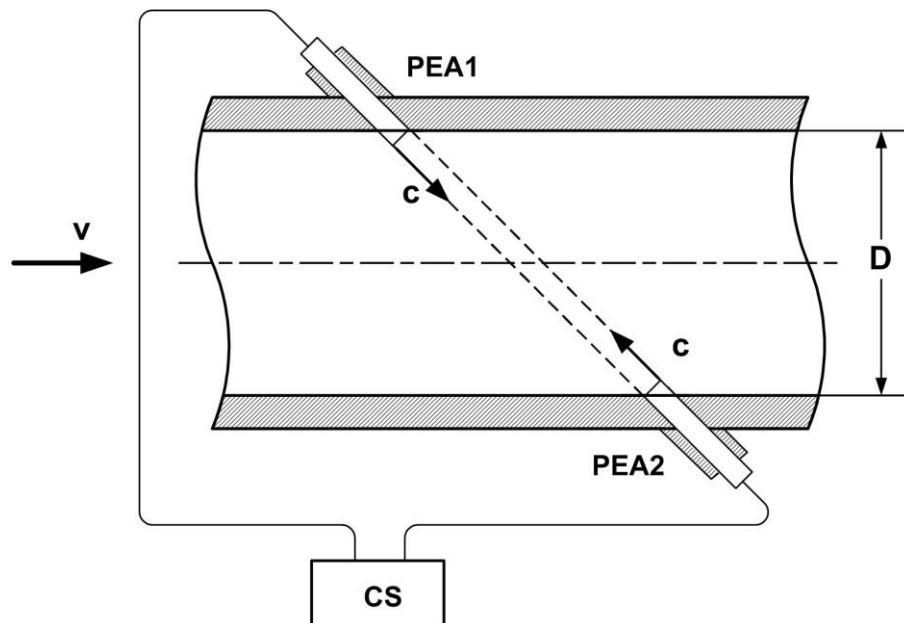

Fig.2. Diagram showing Pipeline Section (PS) with PEAs installed
1.4.1.2. PEAs are diametrically (see Fig.2) installed into the measuring section (Pipeline Section, PS) making up together the Primary Converter (CP).